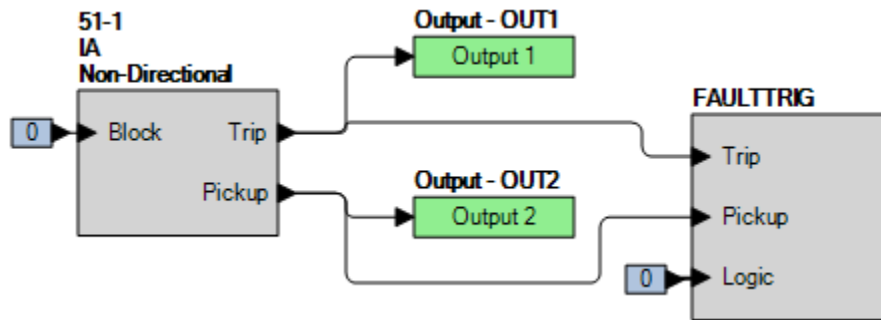

Figure 67-1. BESTlogicPlus Settings (Phase Mode)
Step 2: Use BESTCOMSP $\iota$  to configure the BESTlogicPlus programmable logic shown in Figure 67-1.
- Step 4: Prepare to monitor the 51-1 function operation. Operation can be verified by monitoring OUT2 (see Figure 67-1).